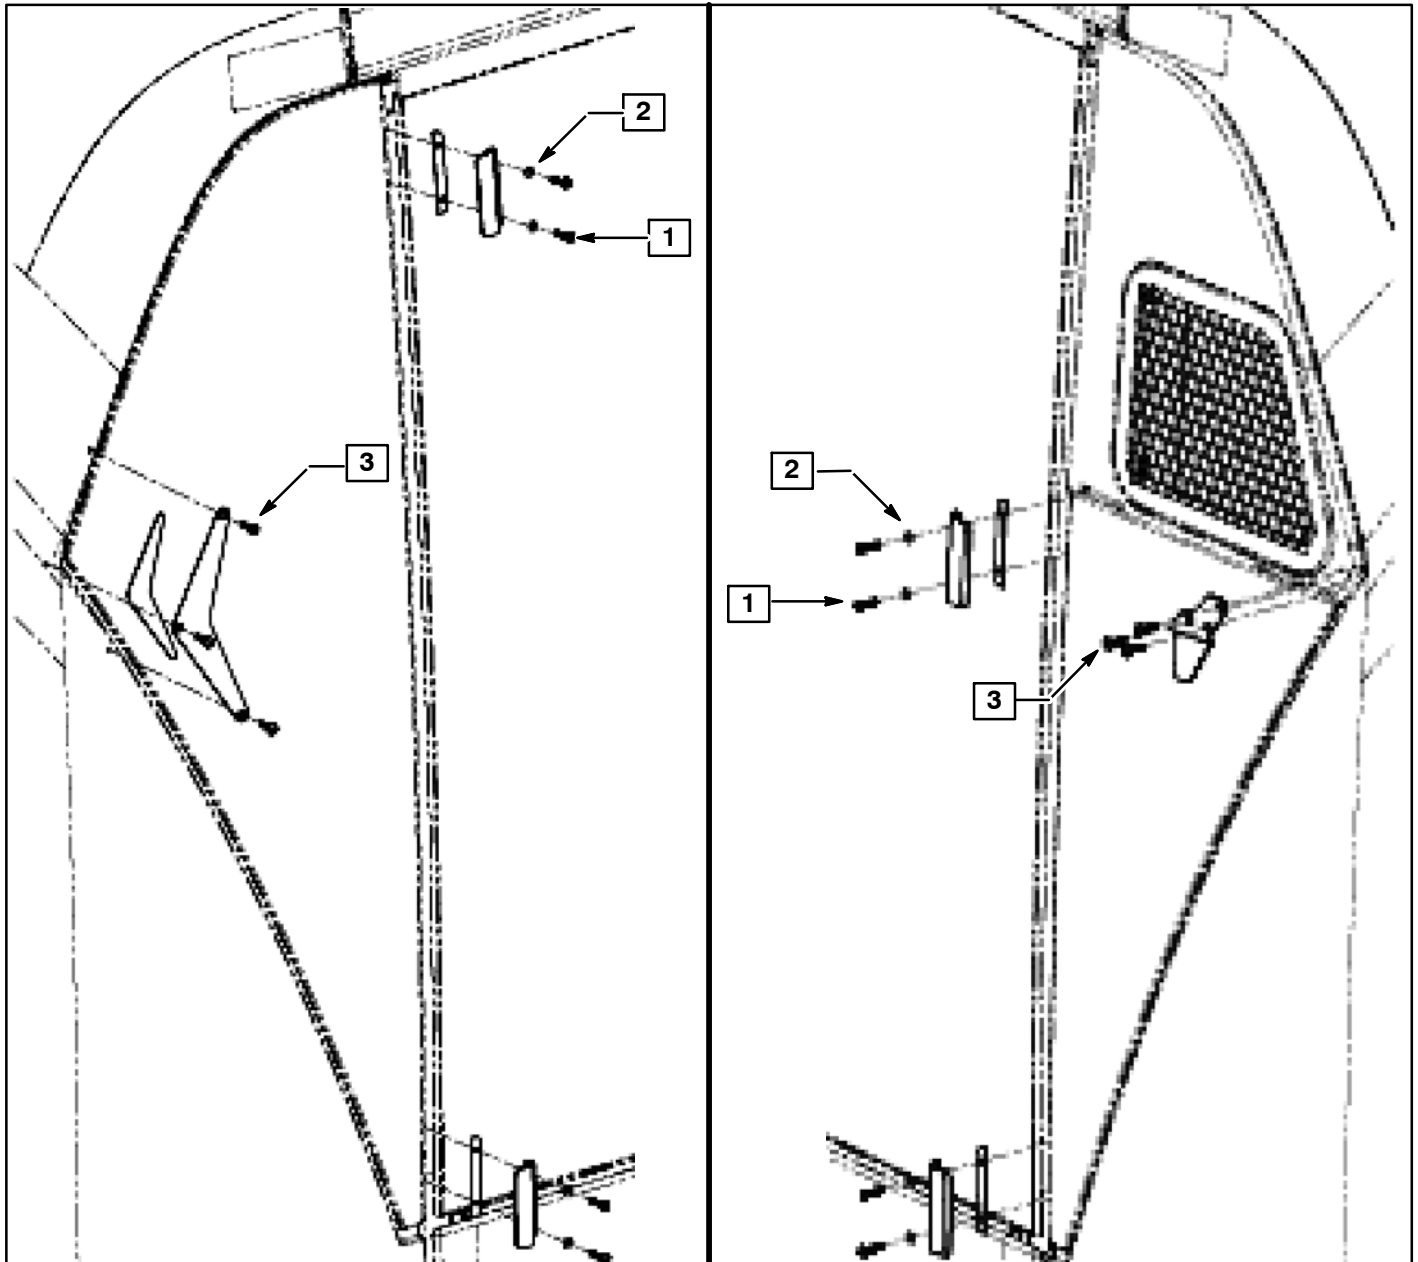

Figure 1. Mounting hardware for transom window retention brackets.
3. Using a clean rag and isopropyl alcohol, clean the installation areas per Figure 1.